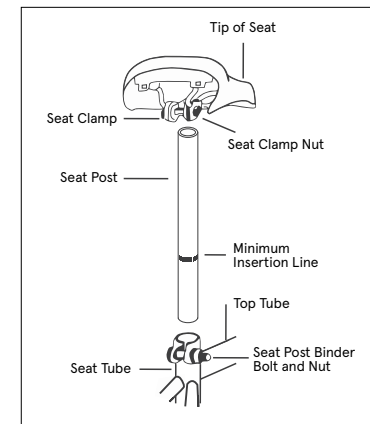

Fig. 10
Step 3: Seat Assembly (Refer to Fig. 10)